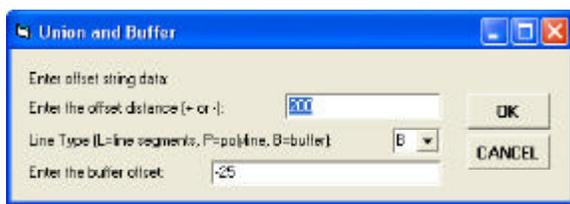

Figure 7
The multi-input dialog box of Figure 7 is displayed. In this case, branch to the **Polygon Buffer**, or to the **Line, Polyline and Curve Buffer** subsection below depending on the feature type that has been selected for processing.
7. When the dialog box of Figure 7 is displayed, a small blue plus (+) sign is also displayed along the selected feature. If more than one feature has been selected, the blue plus sign is displayed along the first feature encountered by the program during its processing. This blue plus sign is displayed to the right side of the feature with respect to the direction of the feature.
Upon display of the multi-input dialog box of Figure 7, the user should:
- (i) If a zero has been entered as an offset in both the *Enter the offset distance (+ or -)*: data field above and in the *Enter the buffer offset*: data field below, a warning message is displayed informing the user that erroneous offsets have been specified, and the dialog box of Figure 7 is displayed again for the user to correct the entries, and continue.
- May not be entered if a zero value has also been entered in the *Enter the offset distance (+ or -)*: data field above, in which case a warning error message is displayed informing the user of erroneous entries. In this case, the user should click at the *OK* button to acknowledge the message, and display the dialog box of Figure 7 to correct the entries and continue with the work.
- **9b Click** at the **OK** button to create the series of two point lines, or the single polyline, and display again the multi-input dialog box of Figure 7, in which case return to **Step 6b** to create another similar feature,
proceed as per the instructions in the preceding subsection, in which case the dialog box of Figure 7 is displayed.
- When more than one feature of the same type, and/or features of different type are selected concurrently, the user may encounter certain warning or error messages without the re-display of the dialog of Figure 7. If such a warning or error message is not displayed, and the dialog of said figure is displayed, the user may proceed with said instructions, but should be aware that the results may not be as expected, depending on the geometry of the features that have been selected and their orientation in the map display.
- The dialog box of Figure 7 is the same as the dialog box of the  Establish offset element strings tool with which the user may cre-